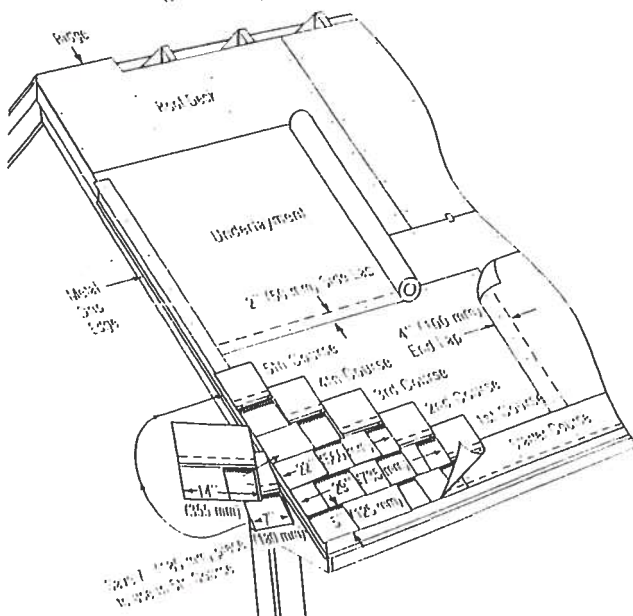

Figure 15-8: Applying the first 5 courses on a standard slope.
1ST COURSE: Apply a full shingle at the lower left corner of the roof. Make the lower edge and left edge lie flush with the edges of the starter course (Figure 15-8).
1. Cut 7" off the left end of the first shingle and save this piece for later use. Apply the 29" long piece over and above the first-course shingle. Leave the bottom 5" tab portion of the first-course shingle exposed (Figure 15-8).